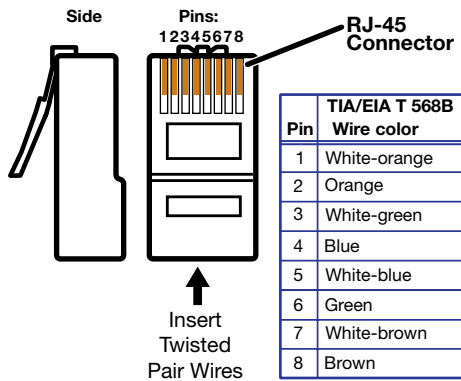

Figure 3. TP Cable Termination
Figure 3 details the **TIA/EIA T568-B** wiring standard. Use this standard to terminate twisted pair (TP) cables with RJ-45 connectors.